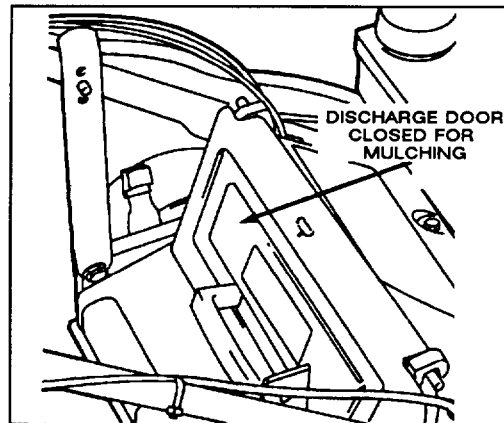

Figure 5
3. MULCHING—In summer when grass grows slower and is drier, mulch by removing the grass bag and closing the discharge door (Fig. 5).